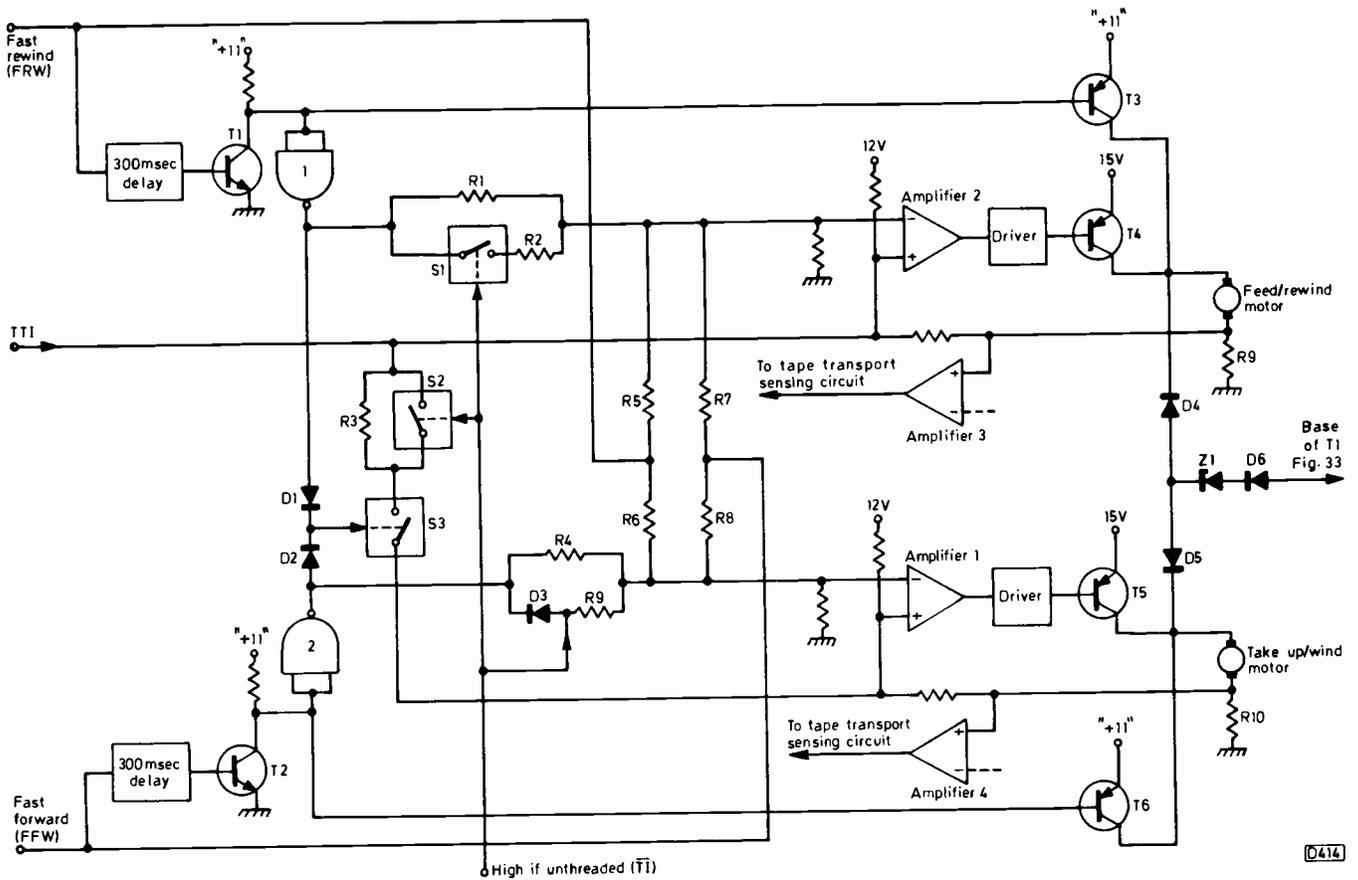
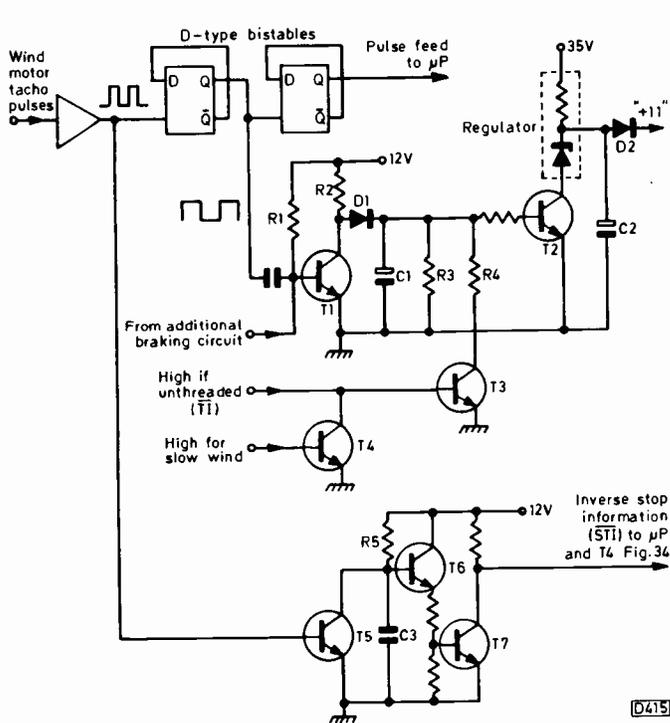

Fig. 32: Feed/take-up motor control circuit.
Fig. 33: Pulling motor speed control and inverse stop information circuits.
Fast wind and rewind are a little more complex than might at first be thought. When either of these modes is selected the microprocessor releases the reel brake – the brake is held on by a spring when the brake solenoid is de-energised. The wind and rewind motors are then both powered at low torque to pretension the tape, and after 300msec the appropriate motor is rapidly accelerated to full speed (unless the not threaded input is present, in which case the speed is somewhat slower). In addition, the tape tension (drag) must be kept at the correct value regardless of the amount of tape on each spool, and a constant wind/rewind speed is desirable. The relevant circuitry is shown in Fig. 32.
Current is still supplied to the pulled motor to provide tension, which should ideally be related to the torque of the pulling motor. This is done as follows. Assume that fast forward has been selected. T5 will be cut off, with T6 supplying the motor (the voltage at the emitter of T6 will depend on the speed of the wind motor - see Fig. 33). As T5 is cut off, the feedback from R10 will have no effect on the speed. The voltage across R10 will still be approximately proportional to the wind motor torque however. During wind or rewind diodes D1 and D2 form an OR gate (they are biased via inverters 1 and 2) which closes switch 3. As a result, the voltage across R10 is fed via R3 to the input of the operational amplifier that controls the rewind motor. Any increase in the wind motor torque thus decreases the current flowing in the rewind motor, reducing the drag and maintaining correct tape tension.
Next, pulling motor speed control. Wind motor tacho pulses derived from another LED/optotransistor arrangement operated from the wind spool are amplified and fed to two cascade connected D-type bistables (see Fig. 33). The output from the second bistable is at a quarter of the wind tacho rate and is fed to the microprocessor which counts the pulses to update the tape counter. The output from the first bistable is at half the wind tacho rate and is fed to transistor T1, which along with R2, D1, C1 and R3 form a pulse counting discriminator giving an output voltage proportional to the input pulse frequency. With no pulse input, T1 is saturated due to the base bias applied via R1. As a result its collector voltage is low, reverse biasing D1 and in turn isolating C1. When a tacho-derived pulse is applied to the base of T1 via the coupling capacitor T1 is momentarily turned off, allowing C1 to charge via D1 and R2. When T1 turns on again, C1 discharges via R3. The more frequently T1 switches off, the higher the average voltage developed across C1.
This voltage is used to bias transistor T2, whose collector is connected to a regulator fed from the 35V rail. The harder T2 conducts, the lower its collector voltage and the lower the voltage developed across C2. This latter voltage, via D2, is the "+11" supply. Obviously then this supply can rise to a higher voltage than the nominal 11V. The actual voltage, which supplies T3 and T6 in Fig. 32, will be inversely proportional to the speed of the wind motor. If this speeds up the motor supply voltage falls and vice versa.
At the end of fast forward or rewind the microprocessor applies the brake by de-activating the reel brake solenoid. Spring action then brings ingeniously designed rubber blocks into contact with both spools, ensuring that the pulled motor is braked more heavily at first to prevent the formation of tape loops. Transistor T3 or T6 (Fig. 32) is turned off and the motor concerned begins to slow down. The back-e.m.f. produced by the motor turns on D4 or D5, the negative voltage being fed via zener diode Z1 and D6 to the base of transistor T1 in Fig. 33. This in turn reduces the "+11" voltage to near zero.
Transistors T3 and T6 (back to Fig. 32) now both have zero voltage at their bases, their emitters being slightly above this. At the same time the back-e.m.f. from the wind/rewind motor is driving one of the collectors negative. Being pnp devices, either T3 or T6 will conduct, connecting the pulling motor's live terminal to chassis. This produces rapid deceleration.
When the "go to" operation is selected, the machine carries out fast tape movement in the appropriate direction in the unthreaded state, i.e. at maximum speed. The inertia of the system could cause overshooting of the requested tape counter reading at high speed, so when a reading within one hundred units of that requested is reached the microprocessor produces a slow wind signal. This turns on T4 (Fig. 33), overriding the "high if not threaded" signal and turning off T3. This increases the average voltage on C1, increasing the conduction of T2, and by reducing the "+11" supply the tape speed is considerably reduced. When the required tape counter reading is reached, the microprocessor removes the fast forward/rewind signal and stops the tape.
Before ordering the machine to go from one mode to another the microprocessor must satisfy itself that tape motion has ceased. It does this by monitoring the state of the wind motor via the inverse stop information signal, i.e. the condition at the collector of transistor T7 in Fig. 33. When wind tacho pulses are present at the base of T5, C3 will not charge sufficiently for T6 and T7 to turn on. When the wind motor stops, T5 is off and C3 charges via R5. T6 and T7 then turn on, producing the inverse stop information signal.
The conditions which are considered by the circuit that provides the input to the base of T1 are as follows: (1) Is the machine in record/playback? (2) Is the brake off? (3) Is the pressure roller on? (4) Is the rewind motor current above a certain value (output from Amp 3 in Fig. 32)? (5) Is the wind motor current above a certain value (output from Amp 4 in Fig. 32)?